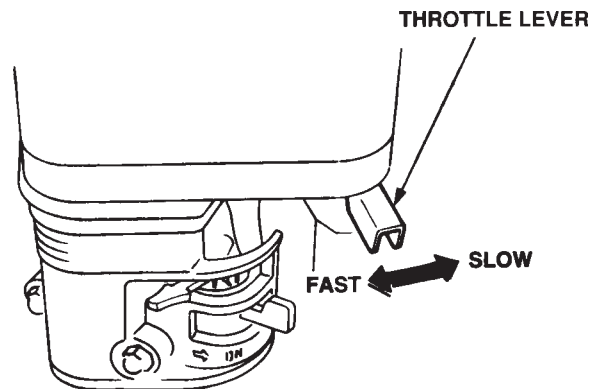

Figure 13. Engine Throttle Lever
4. Place the **throttle lever** (Figure 13) halfway between **fast** and **slow**.
1. Place the **throttle lever** (Figure 13 or 13A) in **slow** position, and listen for the engine speed to decrease.